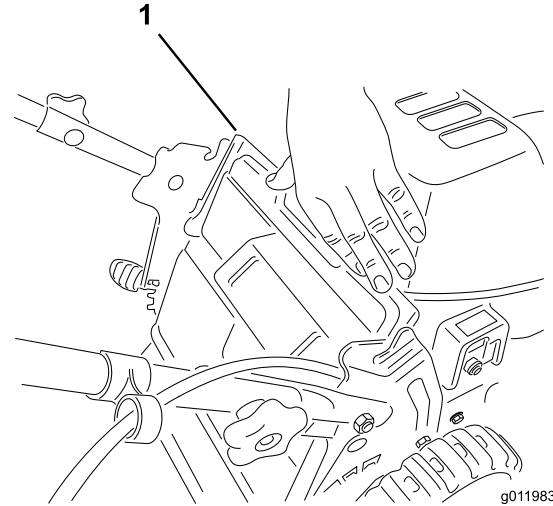

Figure 9
1. Lift up the rear deflector (Figure 9).